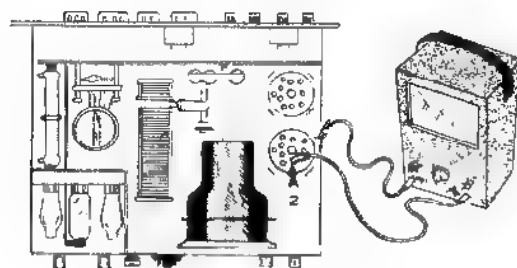

Figure 35E
- () Referring to test setup in Figure 35E, connect the negative lead of a Volt-Ohm-Milliammeter to the KL-1 chassis. Using an insulated probe, place the probe (positive lead) in pin 2 or 4 of either 4-400A tube socket. Note that there are air holes in the socket which contain no pins. Actual socket pins are numbered according to the insert. Set the meter on its 5000 DC volt scale.